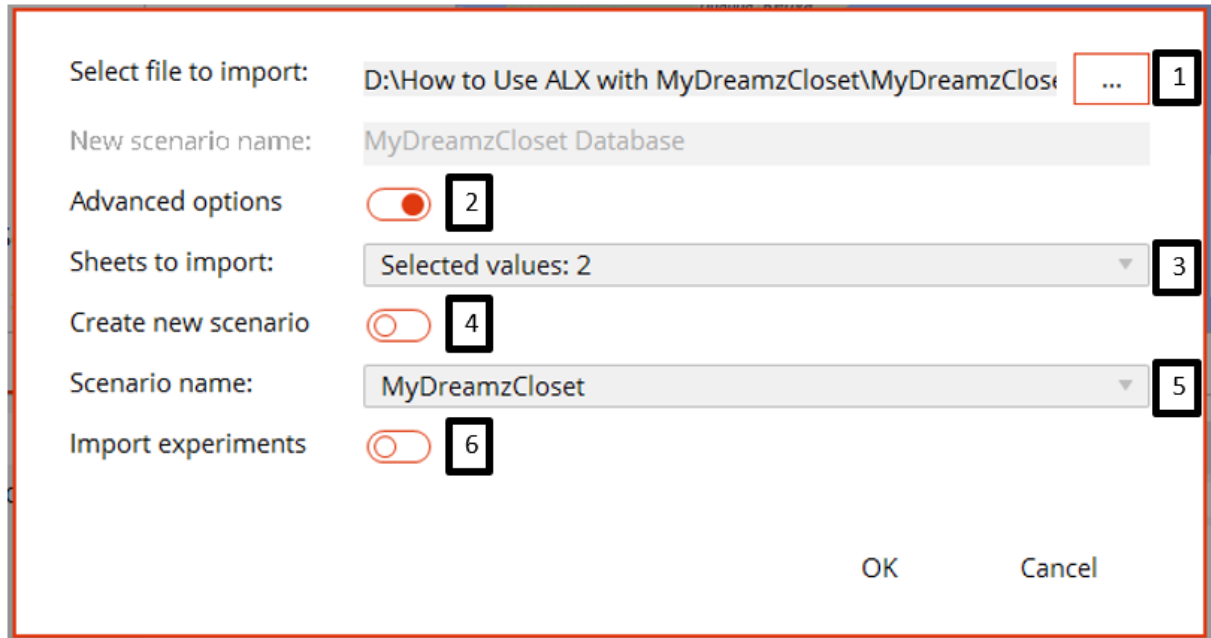

Figure 15: Importing Excel Customers into ALX
- ✓ You will come to Figure 15